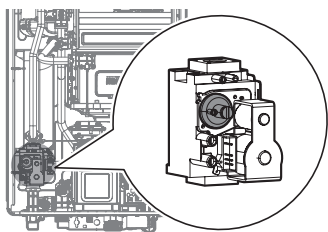

Figure 10
- c. Fully open a hot water fixture and set the water heater to operate at 1-stage MIN mode (refer to “Setting the Operation Mode” on page 115). Measure the offset value at low fire and compare it to the values in Table 3. If the offset value is out of range, the gas valve set screw will need to be adjusted. If adjustment is necessary, locate the set screw as shown in Figure 10. Using a $\frac{5}{32}$ in. or 4 mm Allen wrench, turn the set screw no more than $\frac{1}{4}$ turn clockwise to raise or counterclockwise to lower the offset value.